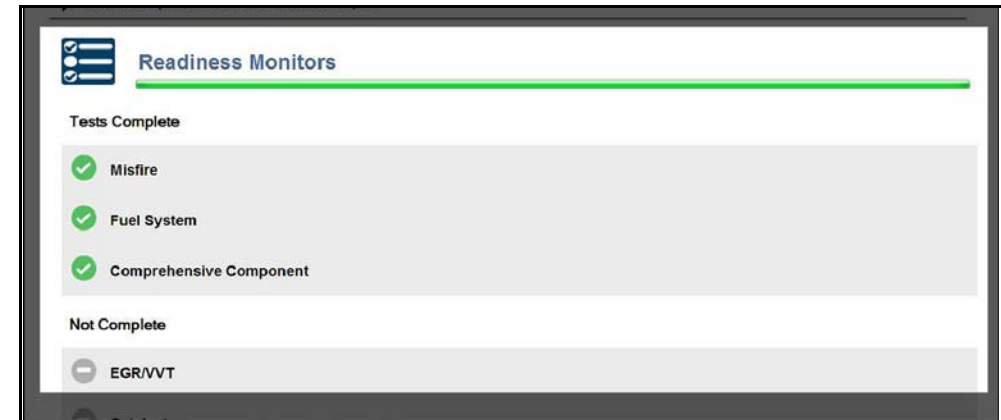

Figure 4-18 Readiness Monitor status
- **Readiness Monitor Test Status.** At the end of the Code Scan Report, readiness monitor test results are displayed as “Tests Complete” or “Not Complete” (Figure 4-18).